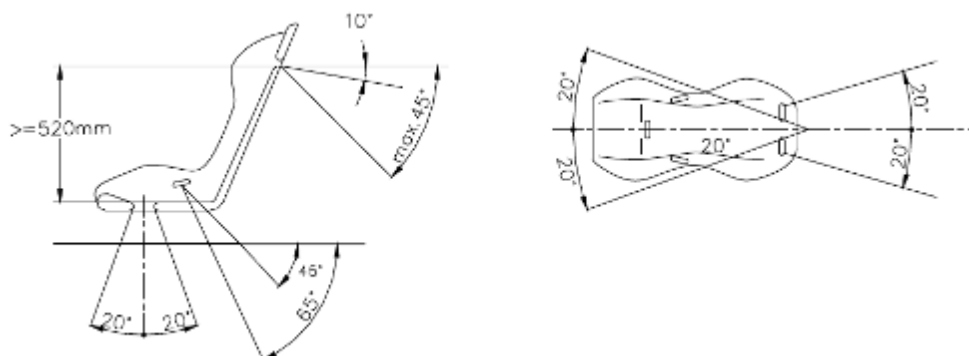

Figure 17
12.3. Shoulder straps shall be directed downwards and backwards and shall be attached with an angle of no more than 10°. (Figure 17).